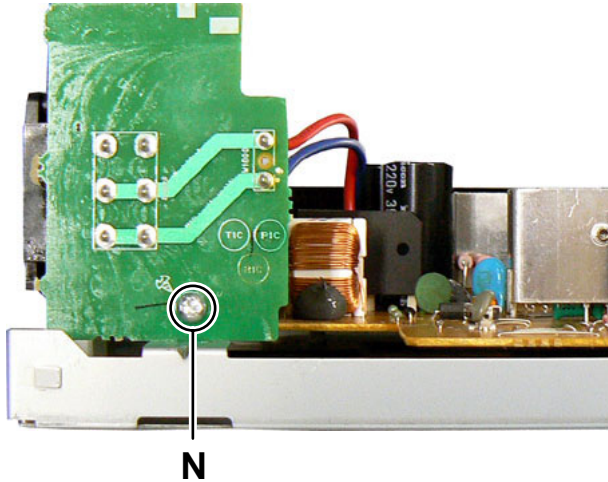

Fig.14
- (2) Remove the one screw **N** attaching the Voltage selector board. (See Fig.14)